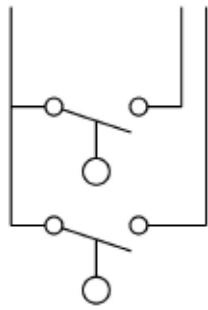

Fig. 1
1. SPST reed switch: Connect wiring to switch leads or terminals per wiring diagram. See figure 1 or 2.